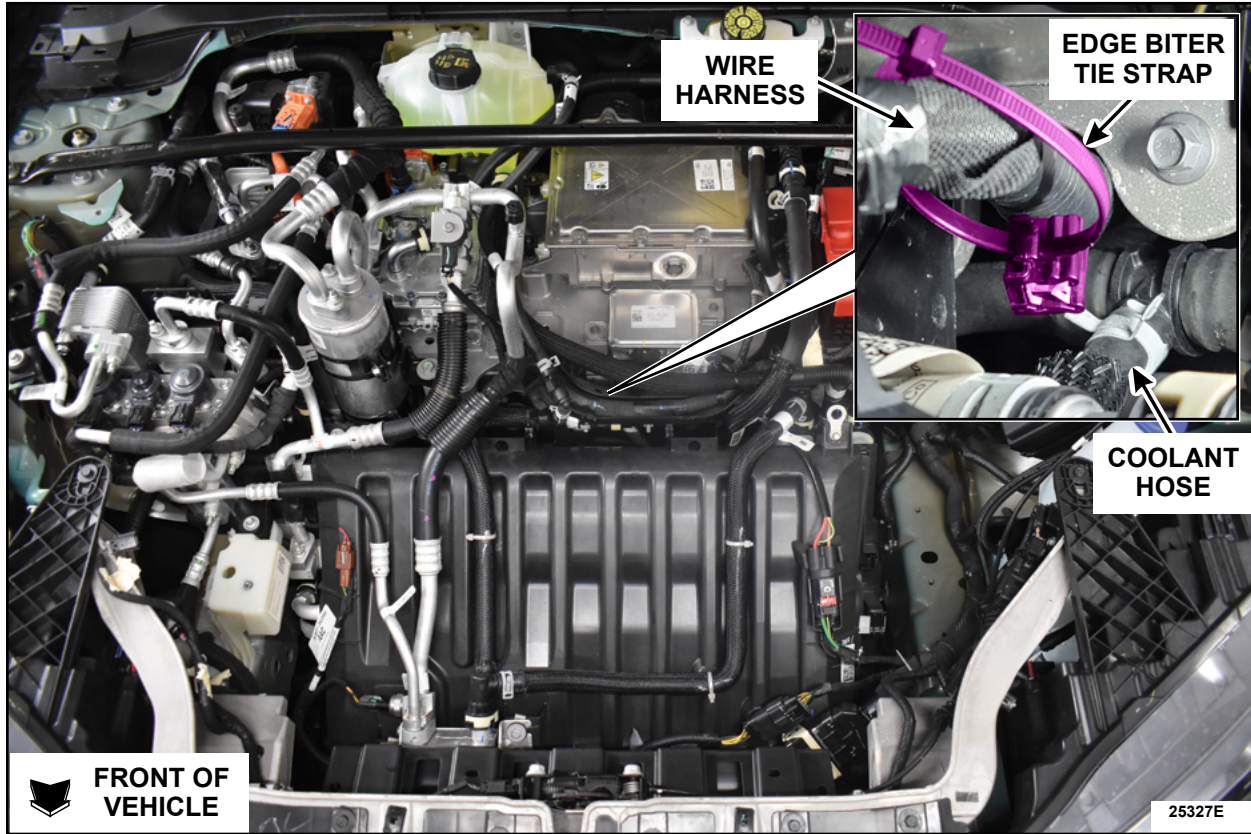

FIGURE 5
6. Loosely install the edge biter tie strap to the wire harness. See Figure 5.